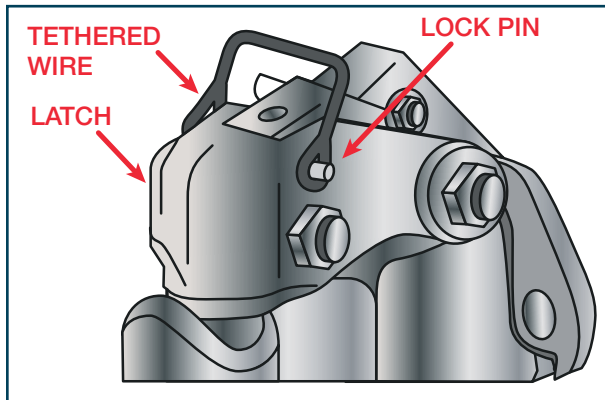

Figure 6.8
- Unlock and remove the tethered lock pin, if applicable (Figure 6.8).
- Insert the tethered lock pin through the latch and lock-holes, and close the tethered wire lock pin, if applicable (Figure 6.8).